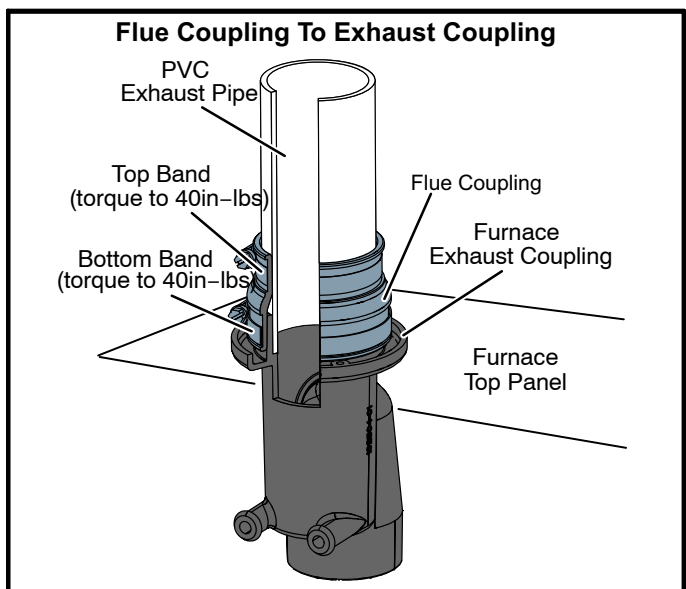

FIGURE 26
Exhaust Piping (Figures 26, 27 and 28)
The provided flue coupling must be attached (**do not use glue**) to the exhaust coupling on the furnace top panel. Use provided bands. See steps below and FIGURE 26.
- 3 - Insert PVC exhaust pipe through flue coupling. Ensure vent pipe is fully seated into exhaust coupling. Tighten both top and bottom bands to 40 in lbs. See figure 26.